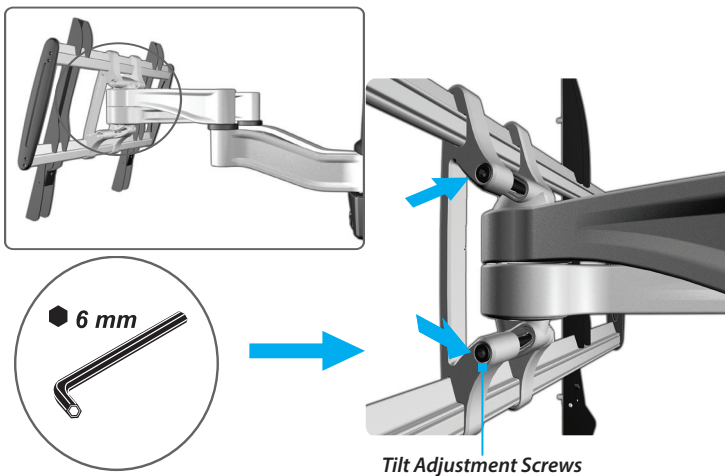

Figure 11
3. While **Supporting** the **Weight** of the **TV**, **Tighten** the **Tilt Adjustment Screws** located on the **Wall Mount Assembly** using the **6 mm Hex Key**. (Figure 11)